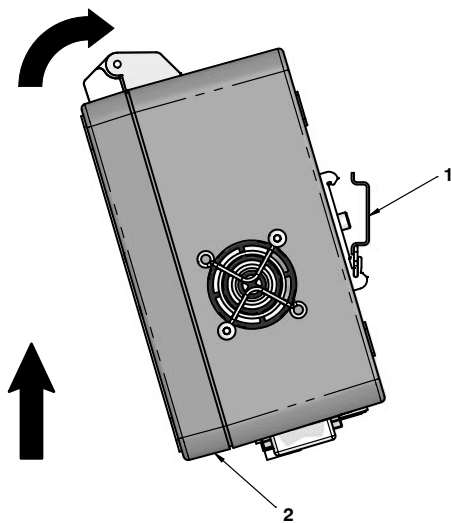

Figure 11: Driver mounting
3. Refer to Figure 11. Position the lower edge of the DIN rail clip onto the DIN rail strip. Rotate the top of the driver and apply pressure until it fully engages the DIN rail strip.